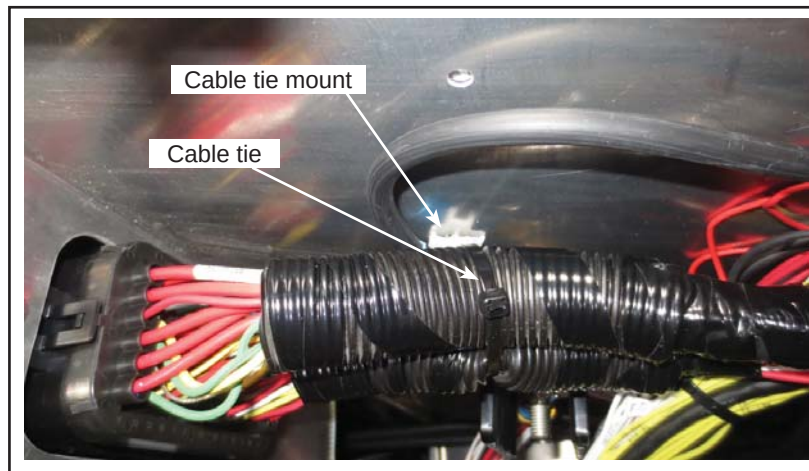

Figure 4 - RF0-X0178A Connector Harness Final Installation
- 1.15. Install a G5007995 cable tie around the two connector bundles and through the cable tie mount on top of the RF0 panel. See Figure 4. Tighten the cable tie to push up the two bundles toward the RF0 panel top. Make sure the harness does not touch the DC-DC converter when the door is closed.